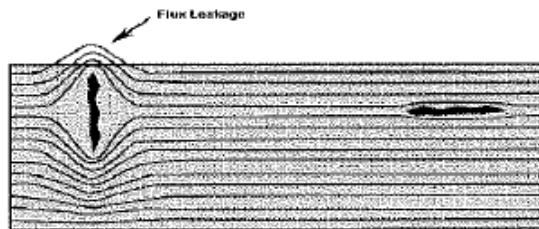

Figure 4.2: Non-destructive testing method.
- (c) There are different types of material testing required to ensure the quality of metal products. The material testing are split into two categories which are destructive test (DT) and non-destructive test (NDT). Answer the following question based on the Figure 4.2 below.
- i. Name the non-destructive test (NDT) shown in Figure 4.2 above.
- ii. There are **TWO(2)** different ways to detect defects in materials using the method in Figure 4.2. Explain briefly both ways with an appropriate diagram.